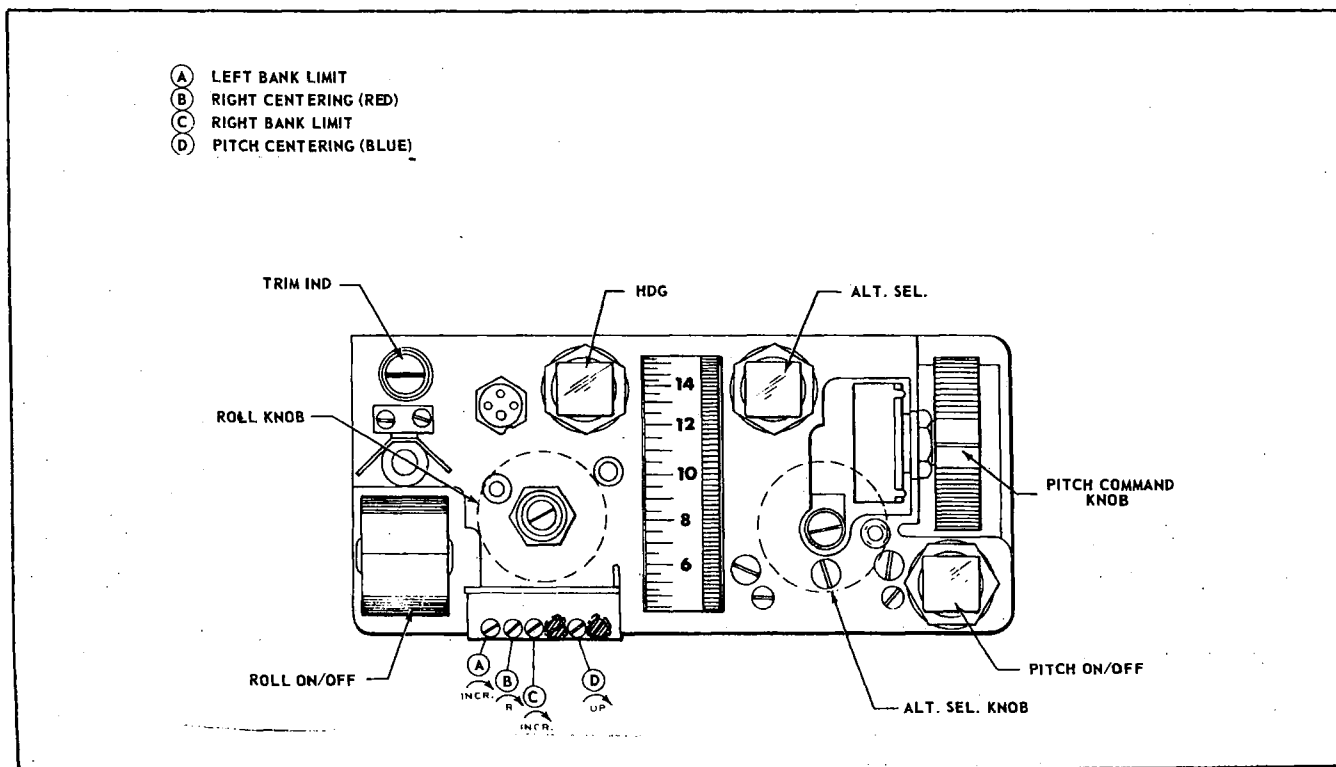

Figure 5-5. AltiMatic III B-1 Console
34. Find six adjustment potentiometers located on the front plate of the Console and directly under the Roll Command Knob. (Refer to Figure 5-5.) Insert SMALL slot head screwdriver in SECOND HOLE FROM LEFT (color coded red) and adjust the roll centering adjustment until needle of voltmeter of Power Section Test Box centers and holds on ZERO. If unable to adjust needle to ZERO by rotating the adjustment screw, replace Console.